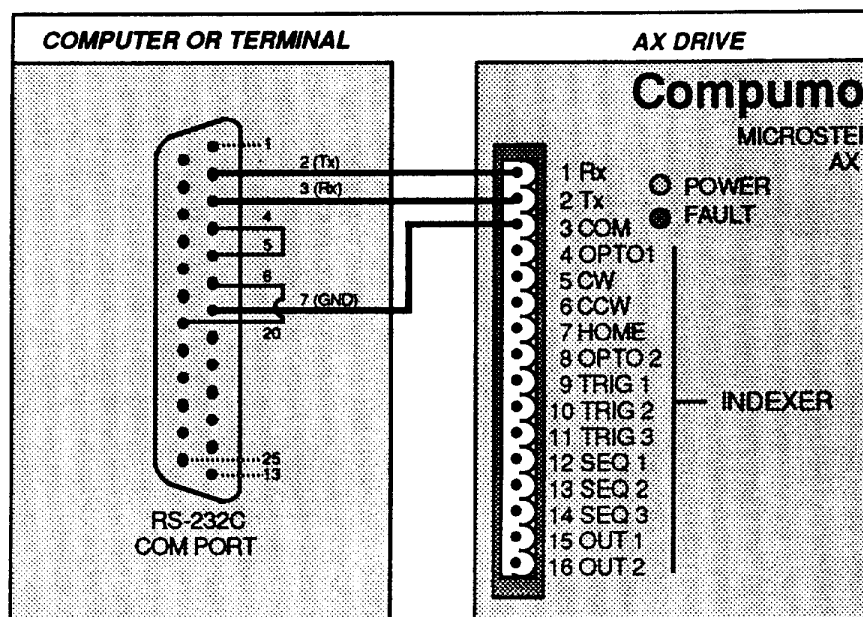

Figure 2-4. RS-232C Interface Connections
The AX Drive uses a simple three-wire implementation of RS-232C serial communication. Receive Data (Rx), Transmit Data (Tx) and Common (COM) signals are transmitted via pins 1, 2, and 3 on the AX Drive's two-part screw terminal connector. Use Figure 2-4 as a guide for connecting the AX to the computer/terminal communication port.
*The AX does not support handshaking of any form; therefore, you should disable the handshaking function of the computer or terminal sending characters to the AX. Typically, the handshaking function is disabled by connecting RTS to CTS (usually pins 4 and 5) and DSR to DTR (usually pins 6 and 20) on the computer's or terminal's 25-pin RS-232C port (see Figure 2-4). Refer to your computer or terminal user guide for the exact instructions to disable handshaking.*